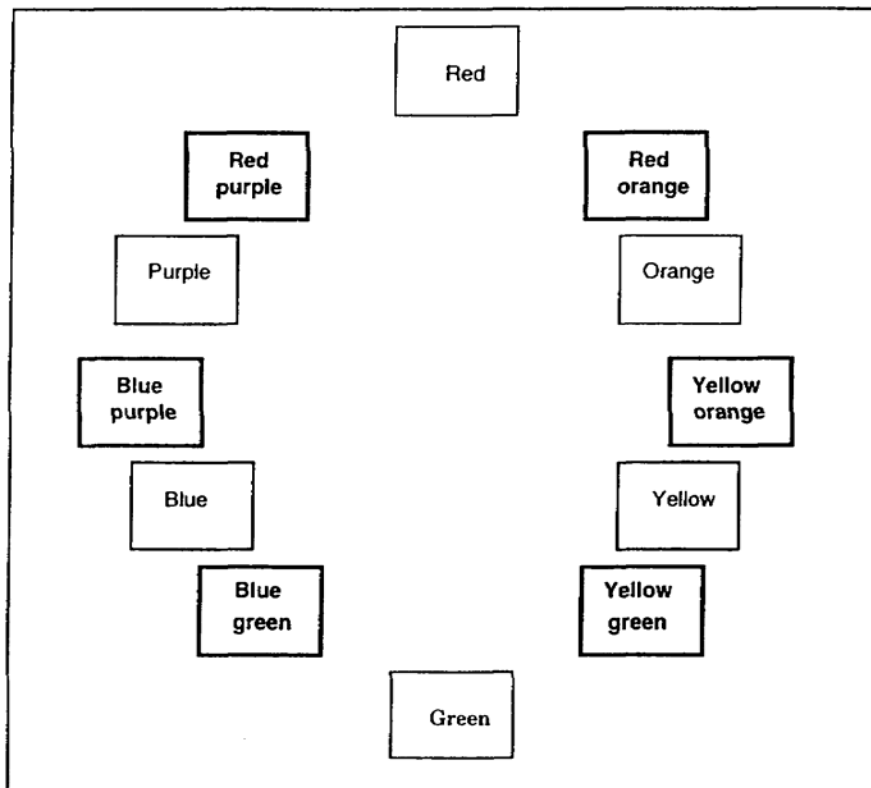

Figure 2-3. Tertiary colors
(3) Tertiary colors. The remaining six places on the color wheel are filled by combining adjacent primary colors and secondary colors. These are called tertiary colors (Figure 2-3). This fills the color wheel with 12 colors, all full strength, which are known as hues.